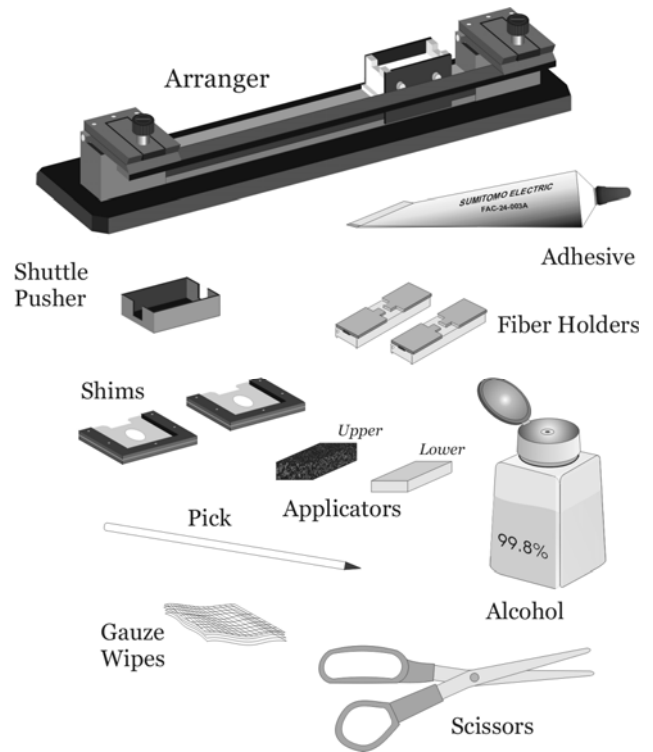

Figure 2. Required Equipment
**5.02** Before creating a fiber ribbon with the arranger, collect all of the necessary equipment as shown in Figure 2.